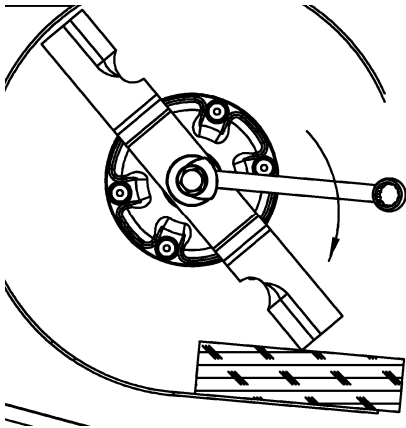

Fig. 14
- Use a block of wood to prevent the mower blade from Turning. (Refer to Fig. 14)